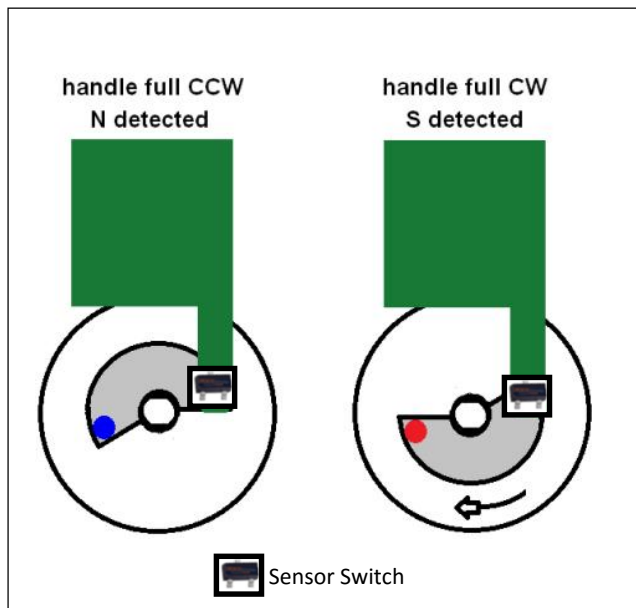
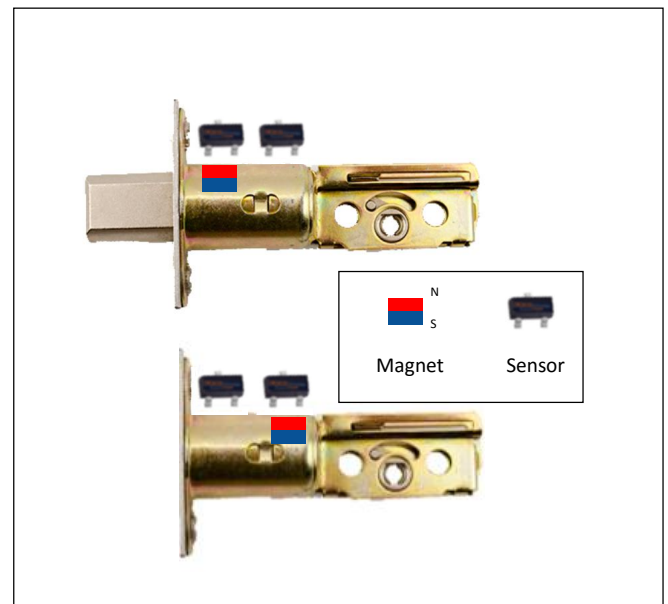

Figure 1: Cylinder Rotation Sensing Example
Figure 2: Deadbolt Travel Sensing Example
The deadbolt position sensing can be implemented in two different ways: 1) Sensing cylinder rotation position as shown in **Figure 1**. 2) Sensing actual travel of the deadbolt as shown in **Figure 2**.
As the cylinder rotation is mechanically linked to the deadbolt position, knowing the cylinder location will correlate directly to the deadbolt position. As shown in Figure 2, by using two magnets to identify full travel of the cylinder in both the clockwise (CW) and counter-clockwise (CCW) position, the sensor will provide accurate information as to where the deadbolt position is, “locked” or “unlocked” position.